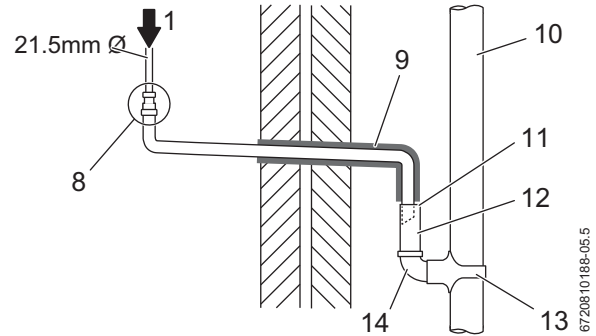

Fig. 13 Disposal into a rainwater down pipe
Continued - Key to illustrations, figures 13,14, 15, 16 & 17
- Refer to figure 13 when a rain water down pipe is used to dispose of condensate.